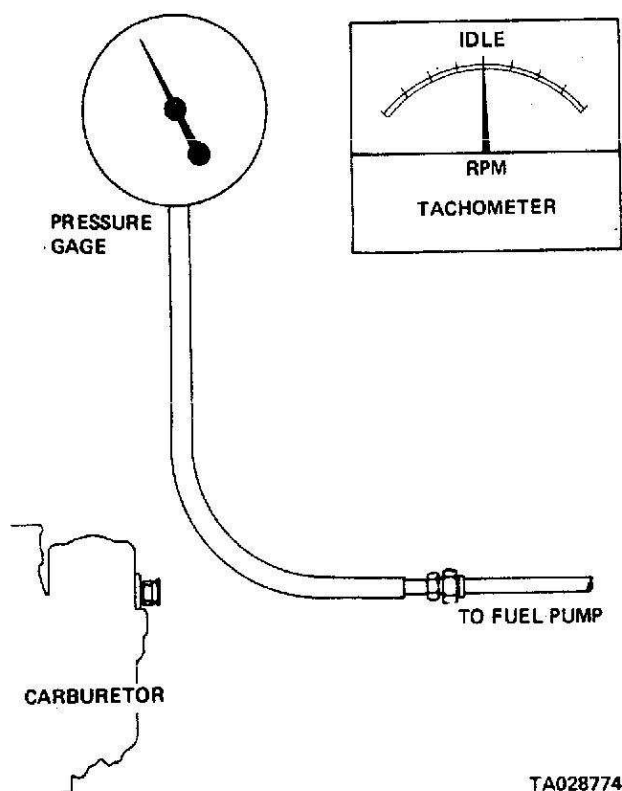

Figure 2-10. Pressure Testing the Fuel Pump.
(1) Connect a tachometer and start the engine. Make sure it is idling at 750 rpm, then stop the engine and disconnect the tachometer.
(2) Remove the fuel line at the carburetor.
(3) Connect a pressure gage to the disconnected fuel line (figure 2-10).